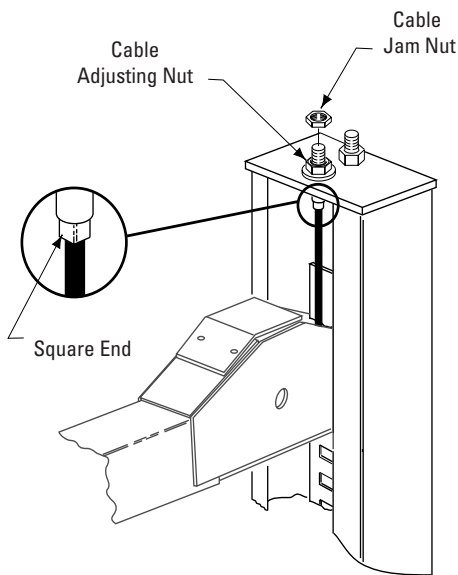

Fig. 27
1. Starting with the right front column: use a straight edge to mark the yoke height on the column, Fig. 27.
4. If entire 2" (51mm) clearance cannot be attained by adjusting the locking latch bar, adjust the cable stud. Loosen cable jam nut, Fig. 27, and turn adjusting nut to raise the locking latch 2" (51mm) above bottom of latch bar slot. Tighten cable jam nut. Lower lift and remove vehicle.